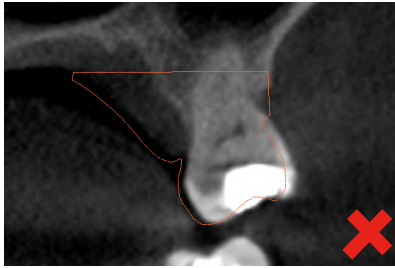

Figure 4: Optical surface data does not match the jaw situation
- When registering the optical impressions, ensure that they were taken at roughly the same time as the 3D X-ray scan since, otherwise, the jaw situation will not correspond to the situation captured (see figure 4). A guiding value here is a maximum of 90 days in between the time when the scan was taken and the optical impression.